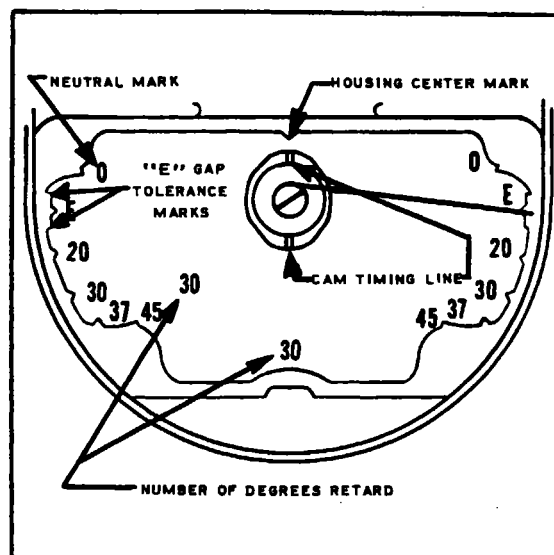

Figure 8-18. Breaker Compartment With Cast Timing Marks
1. On each side of the breaker compartment there are timing marks indicating "E" gap and various degrees of retard breaker timing. The marks on the left hand side, viewed from the breaker compartment, are for clockwise rotation. The marks on the right hand side are for counterclockwise rotation. The timing marks indicate "O" position, "E" gap and various degrees of magneto retard. The point in the center of the "E" gap boss indicates the exact "E" gap position. The width of the boss on either side of the point is the allowable tolerance of ± 4 degrees. (Refer to Figure 8-18.) In addition to these marks, some cams have an indented line across their end for locating "E" gap position of the rotating magnet when aligned with the mark at the top of the breaker housing.
6. On retard breaker magnetos, the retard breaker is set to open a predetermined number of degrees after the main breaker opens within $+2 -0$ degrees. The degree of retard for any particular magneto is stamped in the lower portion of left hand side of the breaker compartment. (Refer to Figure 8-18.) Move the